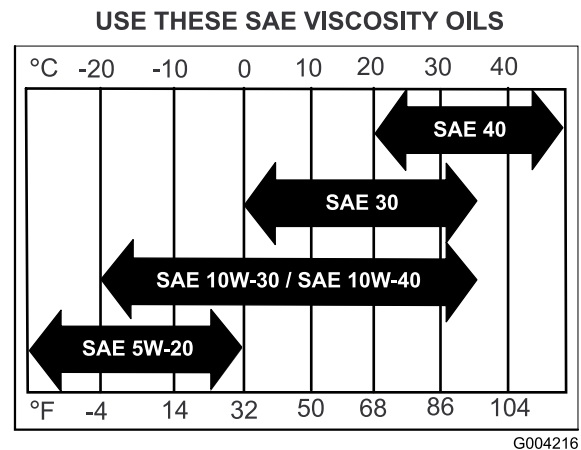

Figure 31
**Viscosity:** Refer to the table (Figure 31).